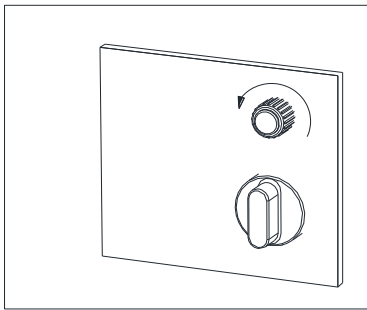
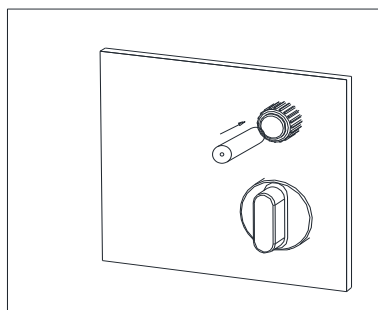
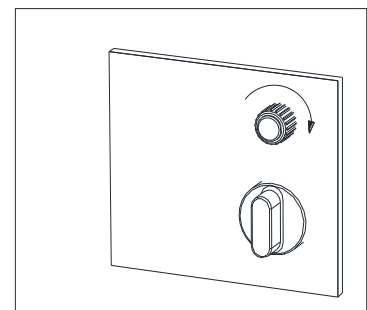

Fig 7
Fig 8
Fig 9
- 3- Unscrew the battery box as shown in Fig 7. Insert the negative electrode side of the battery into the bottom of battery box as shown in Fig 8. Then screw the battery box as shown in Fig 9.